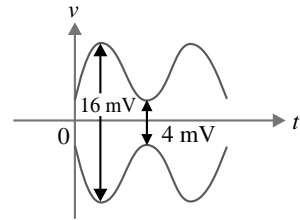

Fig. 14.8
**Solution.** Fig. 14.8 shows the conditions of the problem.